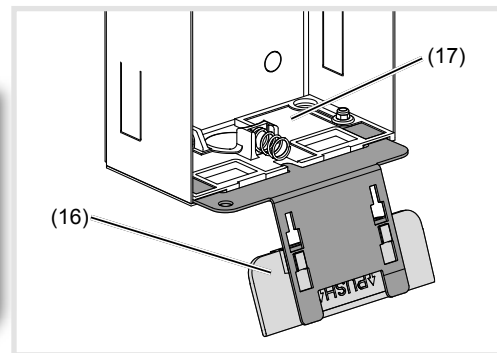

Figure 5: Inserted opening tool
(15) Support bracket of the fastening elements
- Insert opening tool (16) into the mounting device of the lower fastening element (17) on the housing (Figure 5).
(16) Opening tool
(17) Fixing element
- Attach the loops of the safety rope (17) to the upper left suspension of the door station and to the upper fastening element (16) in the housing. Place the door station for installation onto the opening tool (Figure 5).